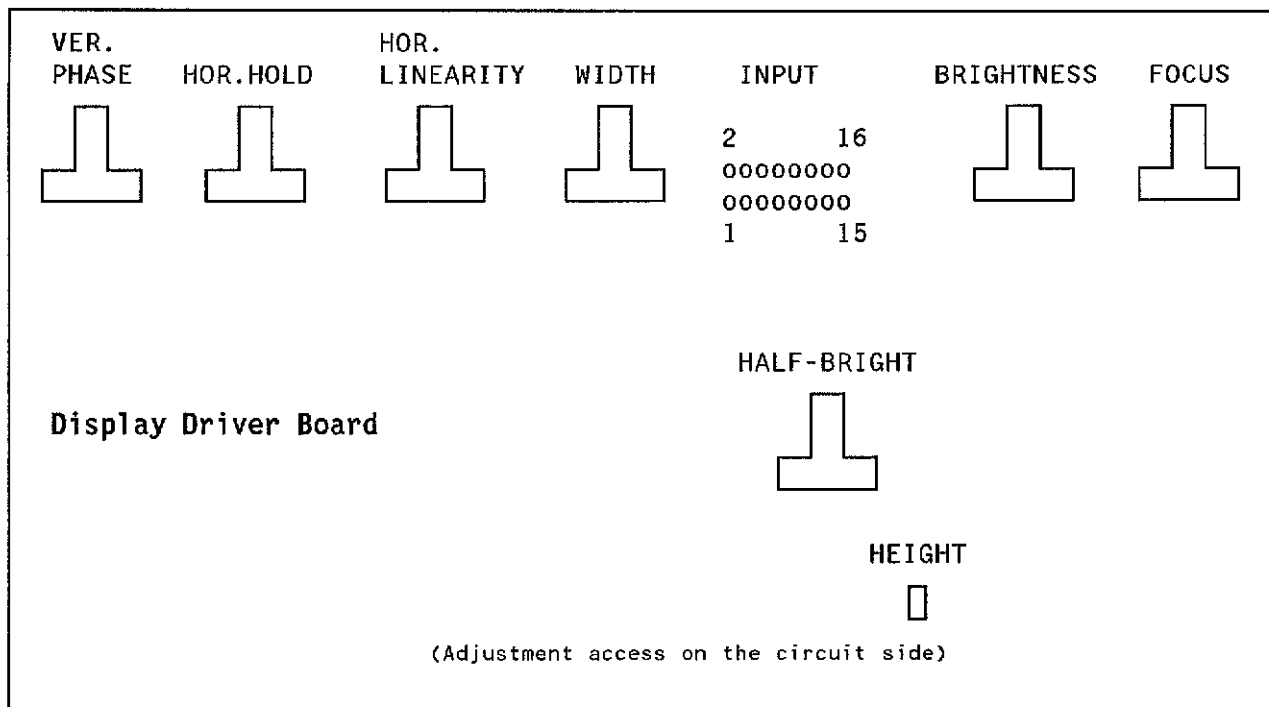

Figure 4-6. Display Adjustment Locations
10. Adjust BRIGHTNESS control pot to minimum (full counter-clockwise). See figure 4-6 for display adjustment locations.
4. If necessary, adjust BRIGHTNESS control pot until display pattern is visible. See figure 4-6 for display adjustment locations.